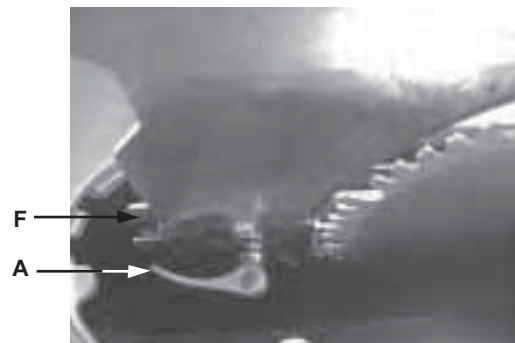

Figure 14
4. Loosen the *lock handle* (A, Fig. 14) and remove the riving knife, making a note as to which direction the riving knife needs to be moved to align it with the saw blade.
5. Reinsert the riving knife; tighten the *lock handle* (A, Fig. 14) and check that the saw blade/knife gap is between 3 - 8mm (Figure 16).